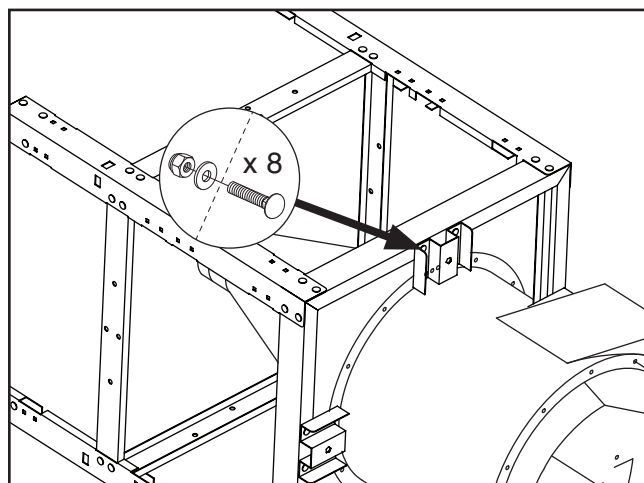

Figure 10. Collector assembly fastened to stand.
8. With help of another person, lay stand assembly on its side on cardboard and slide collector assembly into stand assembly, as shown in **Figure 10**.
9. Fasten collector assembly to stand with (8) $\frac{5}{16}$ "-18 x $\frac{3}{4}$ " carriage bolts, $\frac{5}{16}$ " flat washers, and $\frac{5}{16}$ "-18 hex nuts, as shown in **Figure 10**.